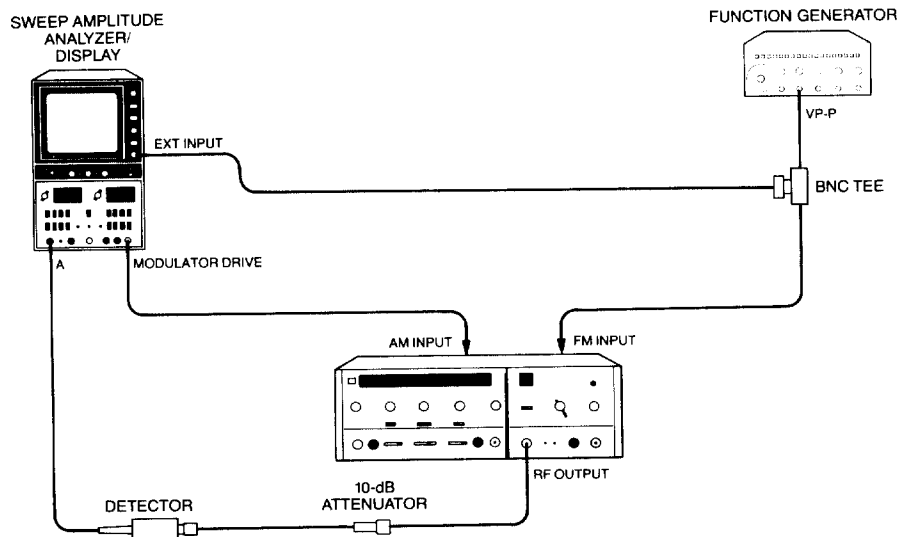

Figure 5-10. YTM Frequency Tracking Adjustment Setup
- h. Connect the equipment as shown in Figure 5-10. Be sure that the 100kΩ Resistor is still connected.